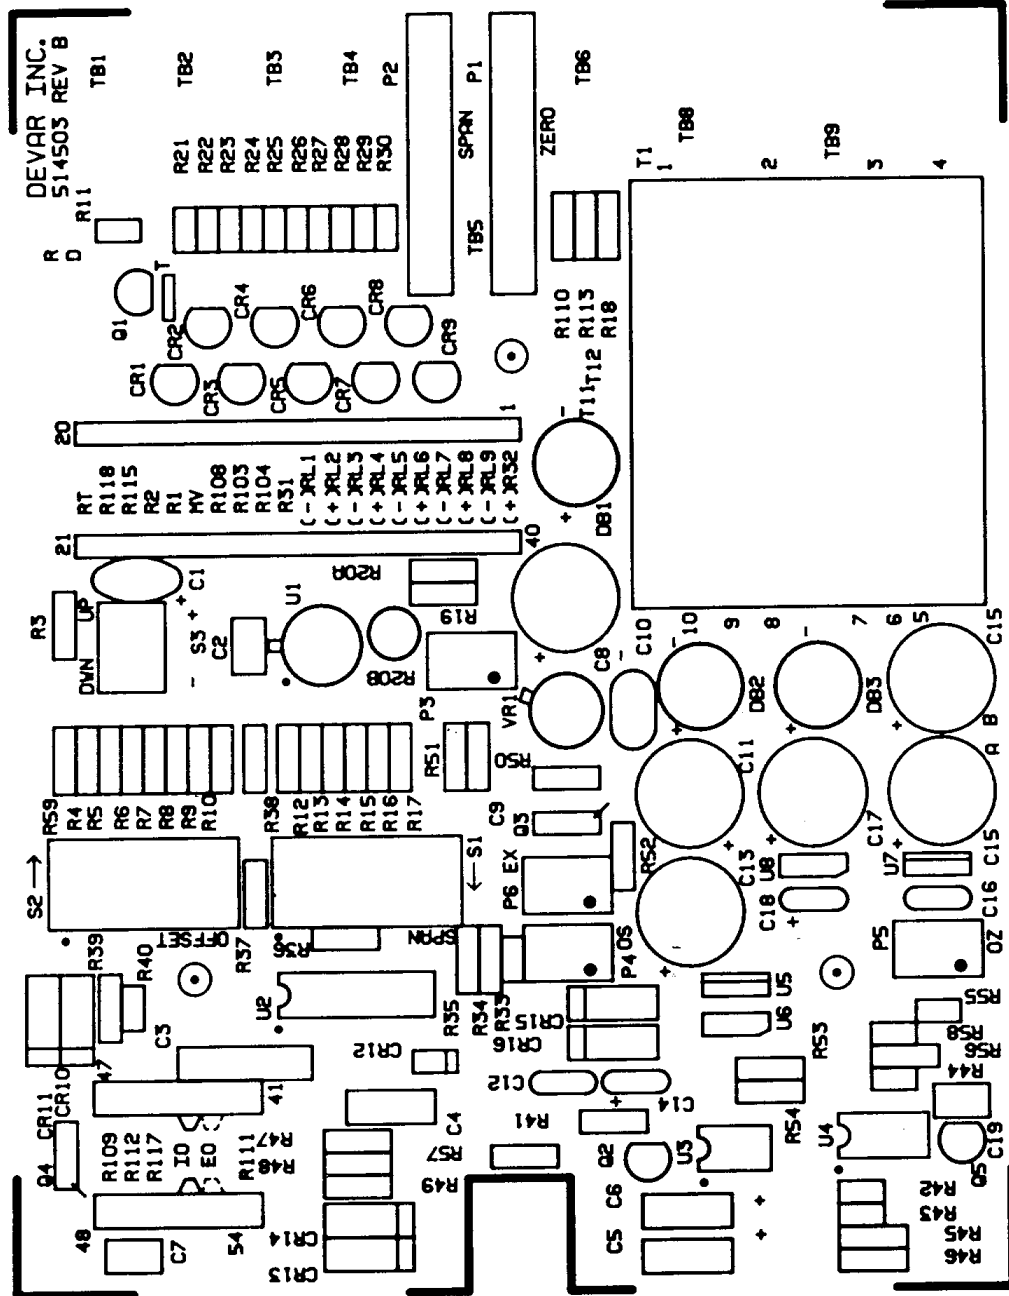

FIGURE 6-1 - PARTS LOCATIONS, 18-115A ISOLATED SENSOR TRANSMITTER
- b. Figure 6-1 - Component Location, 18-115A Isolated Sensor Transmitter